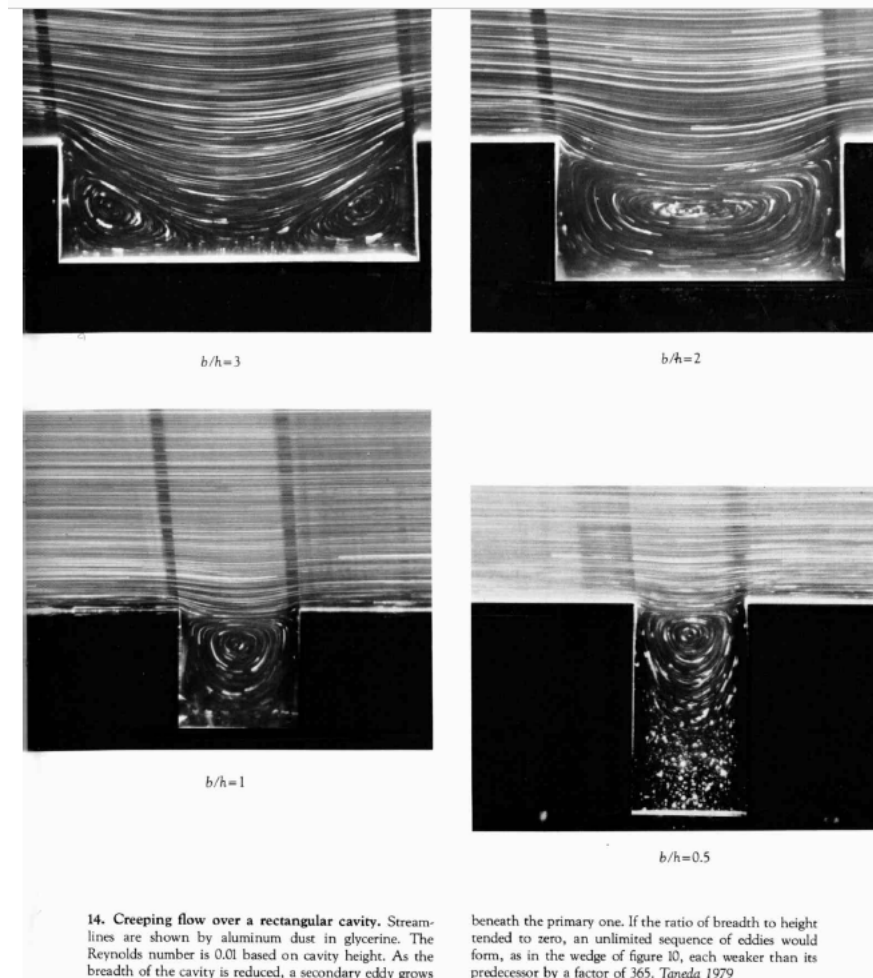

FIG. 1 Images from Album of Fluid motion.
1. See the images for creeping flow in a rectangular cavity from Album of Fluid Motion. Reproduce the experimental results in Figure 1. Include a panel of 4 images from Comsol to match the experiments (visually).